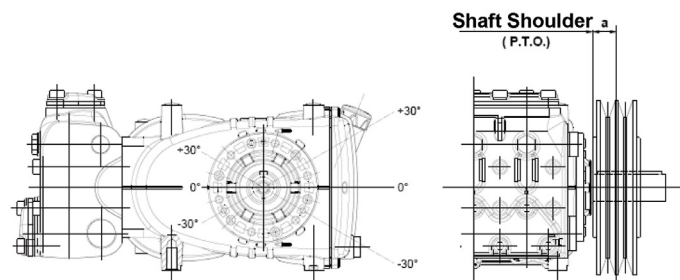

fig. 10
The pump may be driven by a v-belt system. For this pump model, we suggest to use 2 XPB belts (16.5 x 13 coggèd); only for long durations, use the XPC profile; both the characteristics and the power transmission capacity of each belt can be verified on the diagram in fig. 7, in function of the number of rotations normally declared by the Manufacturer. Minimum diameter of the driven pulley (on the pump shaft): ≥ 160 mm. The radial load on the shaft must not be greater than 3000 N (value required for the definition of the lay-out). The transmission is considered adequate if this load is applied at a maximum distance of 30 mm from the shaft shoulder (PTO) as indicated in fig. 10.
- Use high efficiency belts - for example **XPB** instead of **SPB**; this will allow to use a lower number of belts to transmit the same power, and consequently a minor distance of the resultant from the shaft shoulder (PTO) "a" in fig. 10.